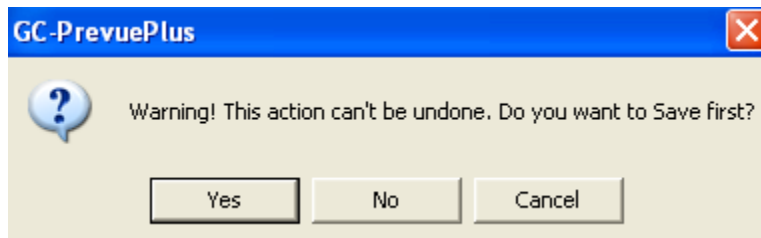

Figure 43
7. Press the “backspace” button to ignore an extraneous character assignment – See Figure 43: